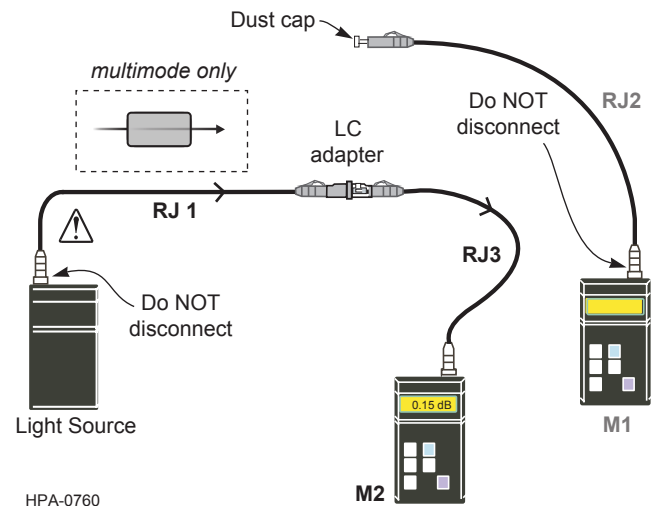

Figure 8
- Step 9:** Clean and install an LC to LC jumper-Reference Jumper no.3 (**RJ3**) into **M2** and the LC adapter (Figure 8).